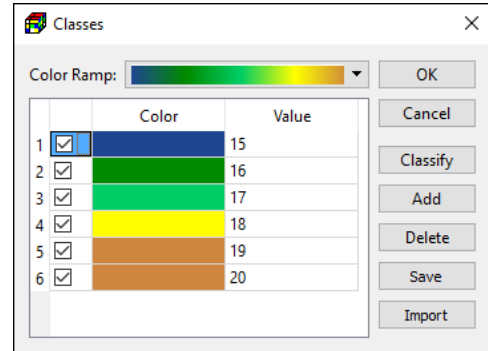

Figure 161. The Classes dialog box
- **Contour Levels:** The contour levels can be defined by clicking on the  button to open the Classes dialog box (Figure 161).